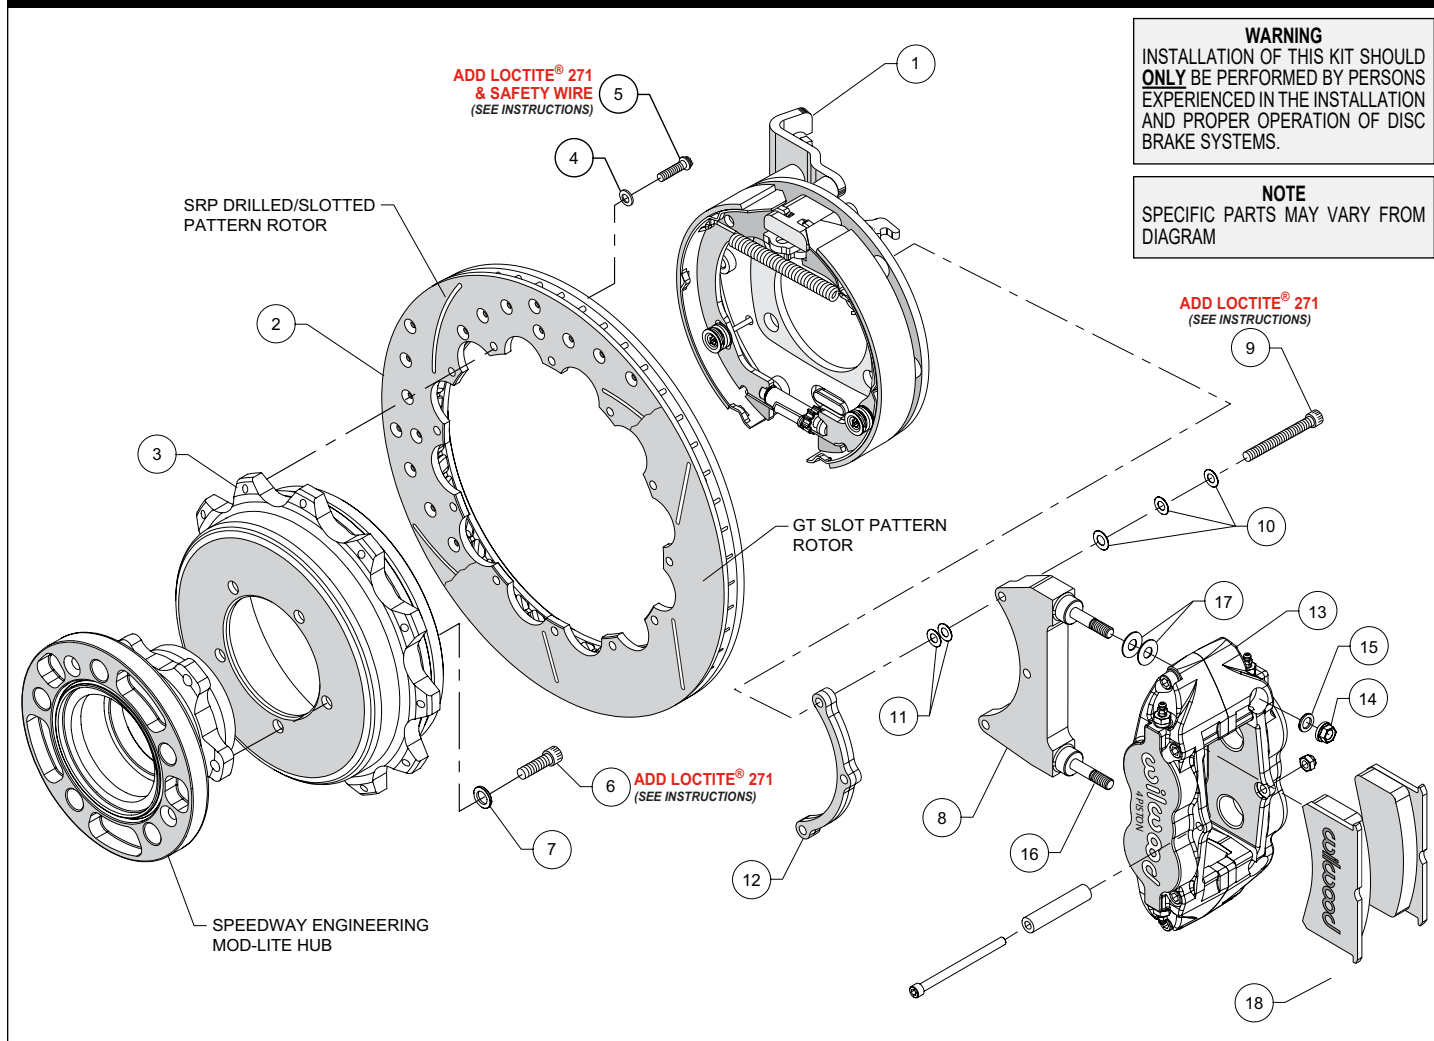
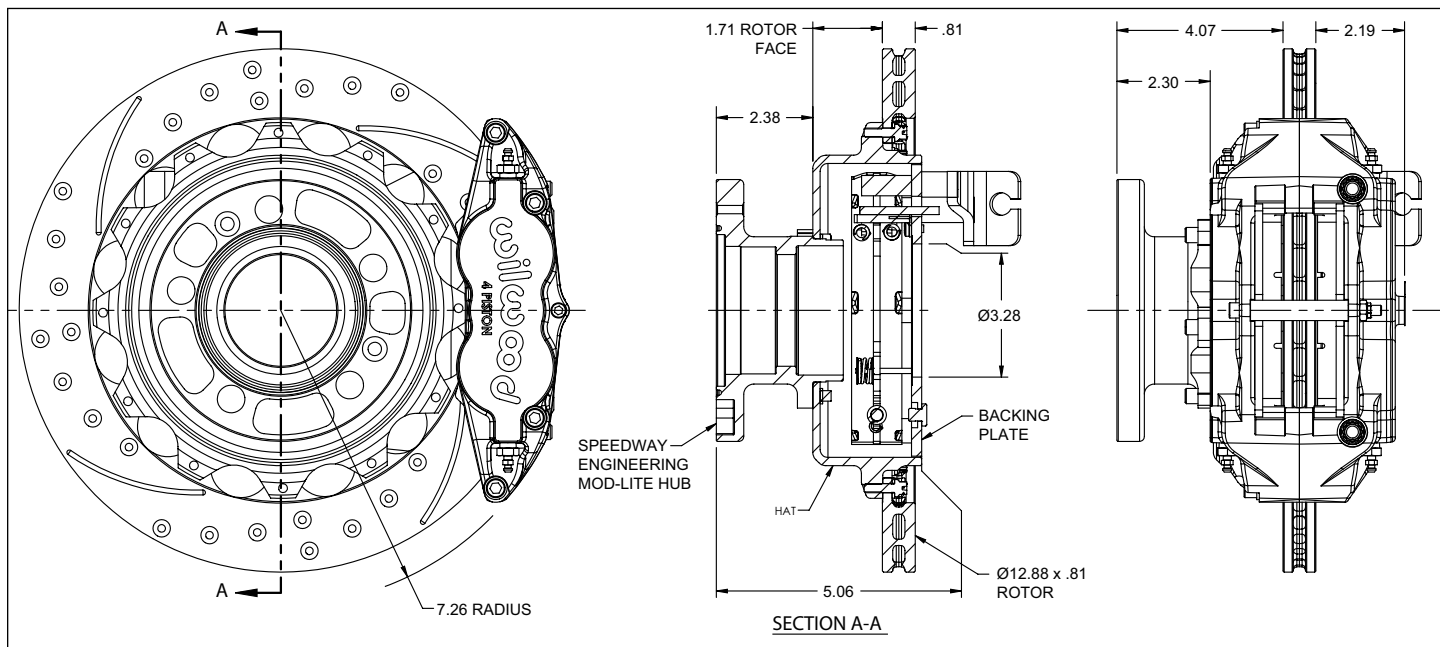
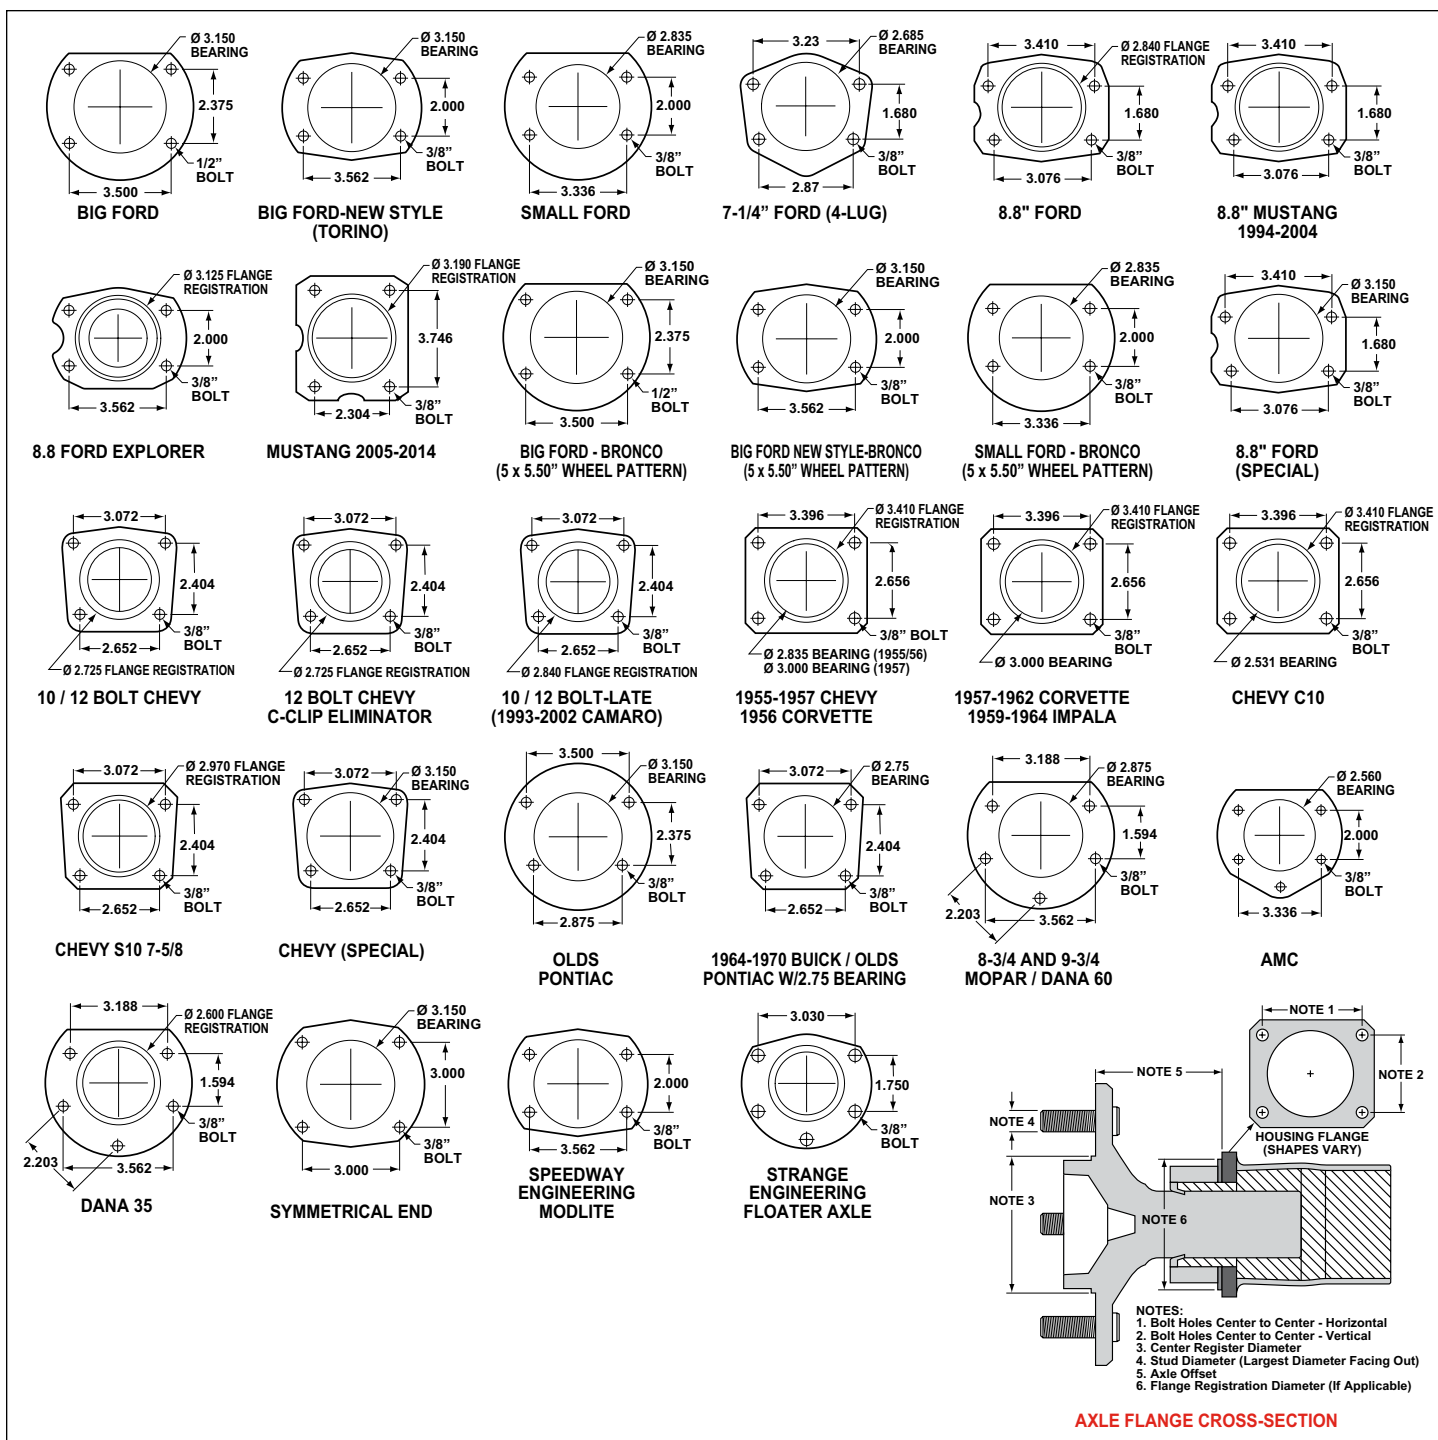

Figure 1. Typical Installation Configuration
Figure 2. Kit Mounting Dimensional Characteristics
Figure 4. Rear Housing Flange Chart and Axle Flange / Offset Cross-Section
• This kit requires a New Style Big Ford mounting flange (see Figure 4) on the axle housing at a distance of 5.06" offset from the face of the installed Speedway Engineering hub, Figure 2.
Assembly Instructions (numbers in parenthesis refer to the parts list, and Figure 1 on the preceding pages):
• Orient the bracket assembly (1) as shown in Figure 1 and secure to the axle housing using customer supplied bolts and nuts. Ensure that the bracket assembly backing plate fits flush against the axle housing flange.
• The caliper mounting bracket (8) should initially be installed with clean, dry threads on the mounting bolts (9). Orient the bracket as shown in Figure 1 and install using bolts (9), washers (10), shims (11) and spacer (12). Initially place two .015" shims (11) on each bolt between the bracket and the spacer. Temporarily tighten the mounting bolts. **NOTE:** End of bolt should not exceed inside face of insert. The bracket must tighten squarely against the back side of the bracket kit assembly (1). Later, after the caliper alignment has been checked, the mount bolts will be secured using red *Loctite*® 271.
• Orient the rotor (2) and the hat (3) as shown in Figure 1 and Photo 1. Attach rotor to hat using bolts (5) and washers (4). Apply red *Loctite*® 271 to the bolt threads and torque to 155 in-lb using a criss-cross pattern. For an added measure of security, the bolts may be safety wired using standard 0.032 inch diameter stainless steel safety wire as shown in Figure 2. Refer to Wilwood's data sheet
- Attach the rotor/hat assembly (2/3) to the hub (Speedway Engineering, customer supplied) using bolts (6) and washers (7) as shown in Figure 1. Apply red *Loctite*® 271 to the bolt threads and torque to hub manufacturer's specifications. Slide the rotor/hat/hub assembly into place on the axle housing.
- Initially place two .035" thick shims (17) on each stud between the caliper and the bracket, as shown in Figure 1 and Photo 2. Mount the caliper (13) onto the bracket (8) using lock nuts (14) and washers (15), Figure 1. Temporarily tighten the lock nuts and view the rotor through the top opening of the caliper. The rotor should be centered in the caliper, Photo 3. If not, adjust by adding or subtracting shims (11) between the bracket and the spacer. Always use the same amount of shims on each of the two mounting bolts. Once the caliper alignment is correct, remove the bracket mounting bolts one at a time, apply red *Loctite*® 271 to the threads, and torque to 180 in-lb.